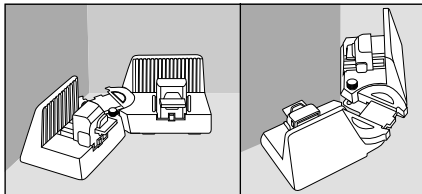

Fig. 4
- ◆ Place the product in or around a corner to measure an inside or outside angle. The movable arms **1** must lie flat against the wall (see fig. 4).